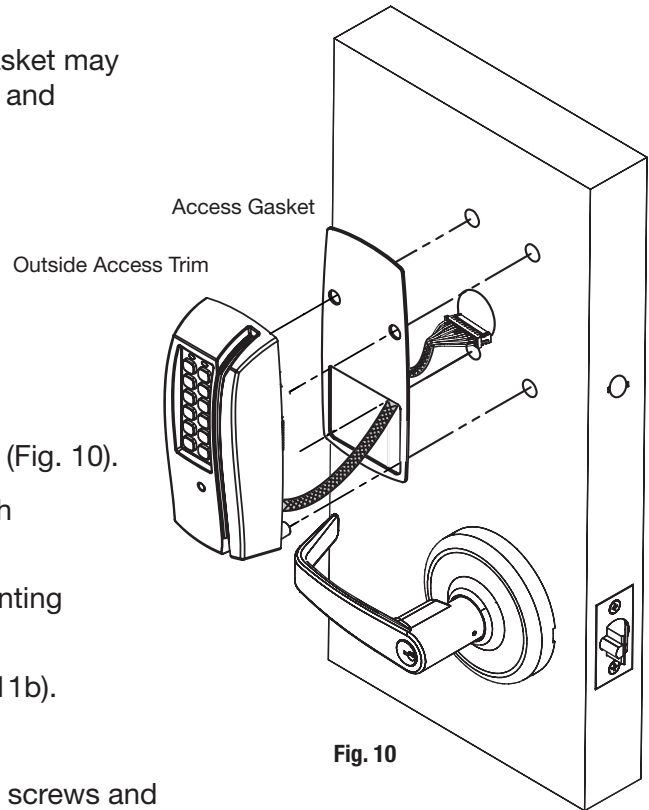

Fig. 10
Peel off the adhesive backing on the gasket and install the gasket along the edge of the outside escutcheon assembly (Fig. 10).
- Insert the mounting posts through holes as shown (Fig. 10).